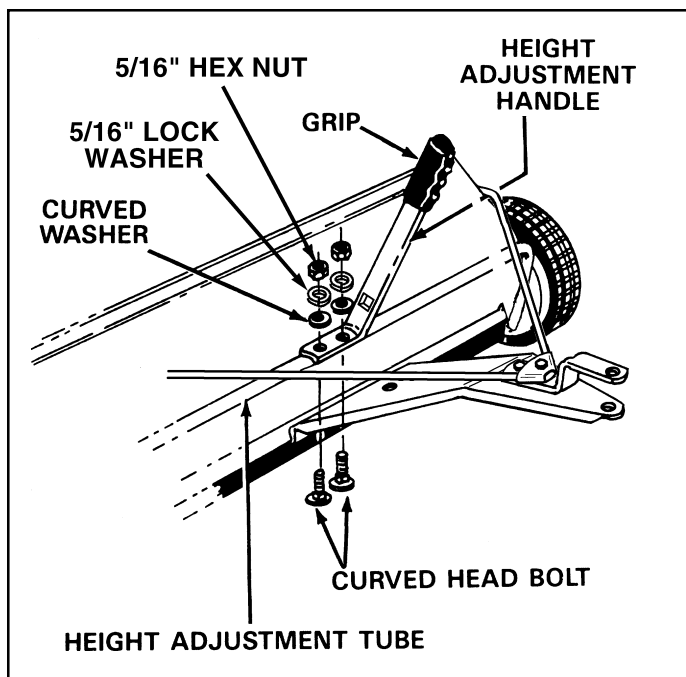

FIGURE 4
6. Remove the two 5/16" hex nuts, 5/16" lock washers and 5/16" curved washers from the height adjustment tube. Assemble the height adjustment handle to the two curved head bolts in the height adjustment tube. Push the handle to the left and secure with the two 5/16" lock washers, 5/16" curved washers and 5/16" hex nuts which you removed. See figure 4.
7. Assemble the grip onto the height adjustment handle. See figure 4.